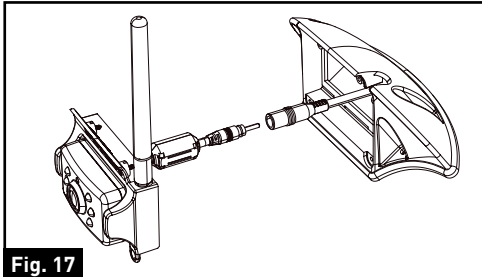

Fig. 17
9. Connect the camera power cable to the camera cable. (Fig. 17)